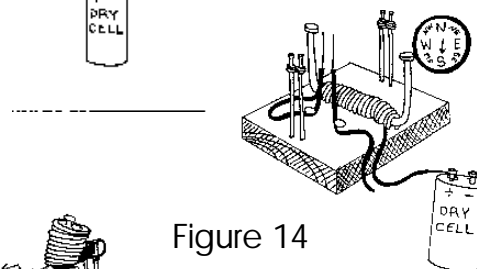

Figure 14
- With the armature still off, connect the field coil directly to the dry-cell as shown in *figure 14*.